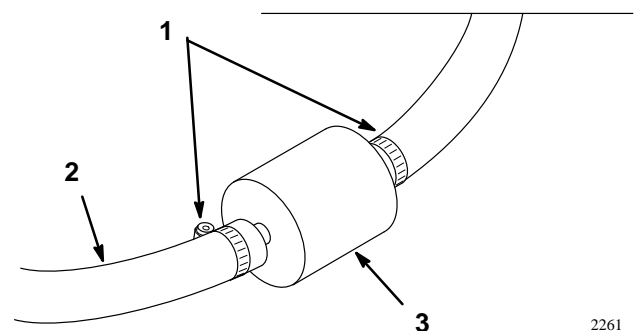

Figure 23
4. Loosen hose clamps and slide them up the hose, away from the filter (Fig. 23).
5. Remove the filter from the fuel lines (Fig. 23).